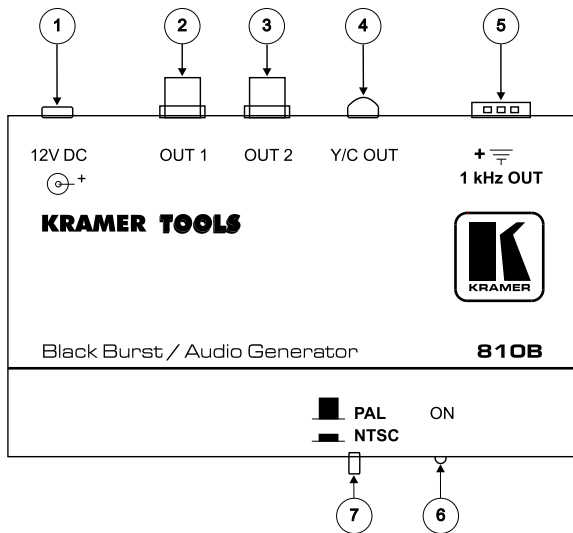

Figure 1: 810B Black Burst / Audio Generator
4 Composite video outputs on 2 BNC connectors, items 2 and 3 in Figure 1
5 s-Video (Y/C) output on a 4p connector, item 4 in Figure 1
Figure 1 and Table 1 define the **810B Black Burst / Audio Generator**:
¹ Item 7 in Figure 1
² Item 1 in Figure 1